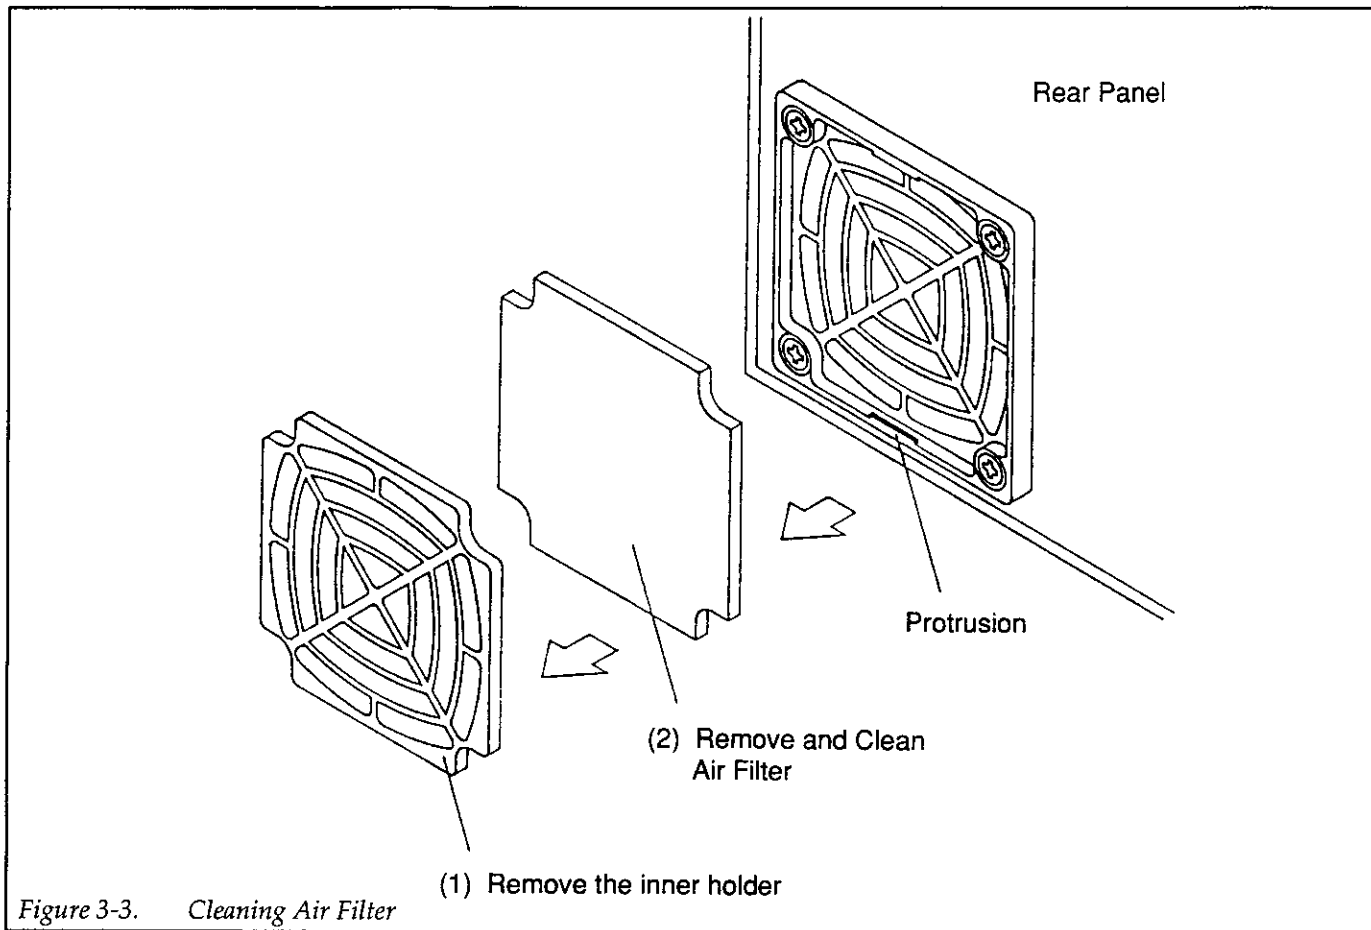

Figure 3-3. Cleaning Air Filter
3. Clean the air filter periodically to prevent clogging. Figure 3-3 shows how to remove the filter for cleaning.